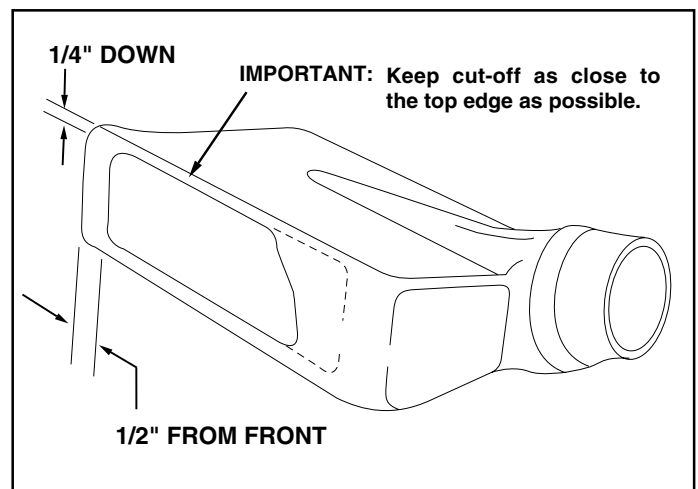

FIGURE 22
3. Tape the template to the face of the adapter, locating template approximately 1/2" from front and 1/4" down from top of adapter. Keep as close to top as possible. See figure 22. Mark outline of template on face of adapter using white crayon, nail or scribe. Drill a starting hole inside the outline, then use a saber saw or key hole saw to cut out the opening. See figure 22.